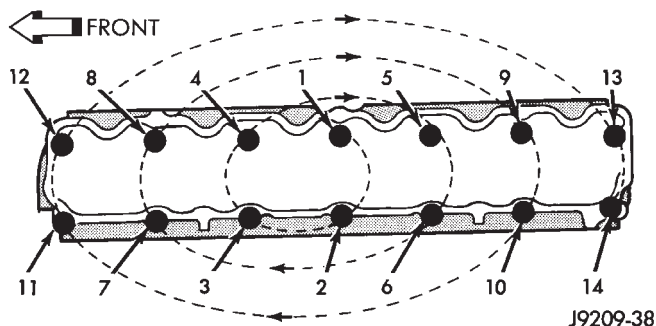

Fig. 36 Engine Cylinder Head Bolt Tightening Sequence
- (3) With bolt No.14 held in place (tape around bolt), install the engine cylinder head over the same dowels used to locate the gasket. Remove the tape from bolt No.14.
- (4) Coat the threads of stud bolt No.11 with Loctite 592 sealant, or equivalent.
- (5) Tighten the engine cylinder head bolts in sequence according to the following procedure (Fig. 36).